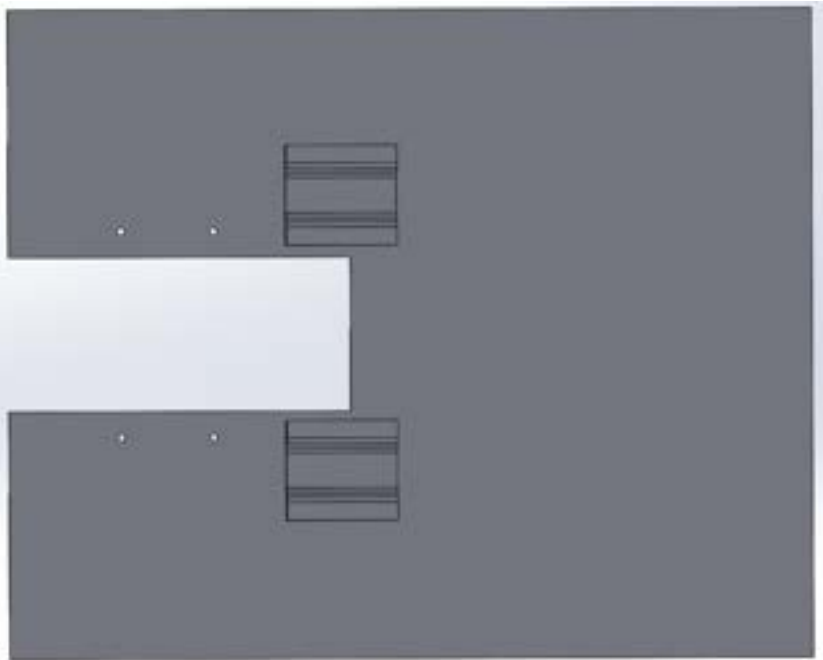

Figure 16: Adding linear slides to assembly
6. Using eight M4 screws, attach two linear slides to the bottom of the phantom bed as illustrated in figure 16.